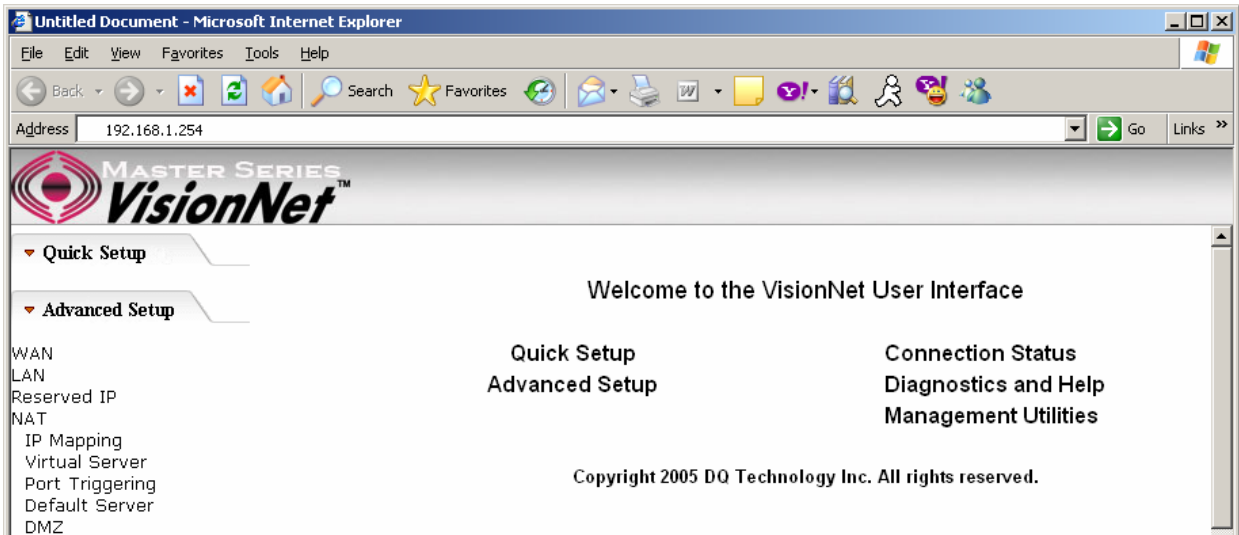

Figure 2. M504 Home Page
- If the authentication is valid, the main page will be displayed on the screen. (Figure 2)